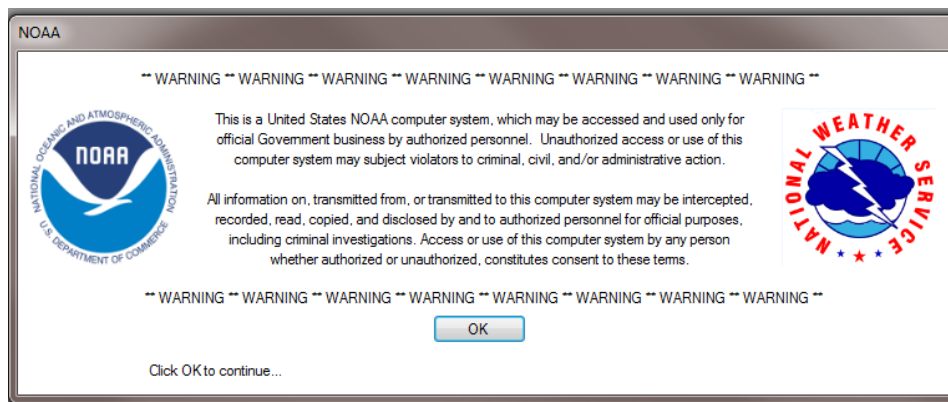

Figure A-12: NOAA Warning Window
2. Double-click on the **RWS.NET** desktop icon to start the RWS software. The *NOAA Warning* window will appear (Figure A-12).